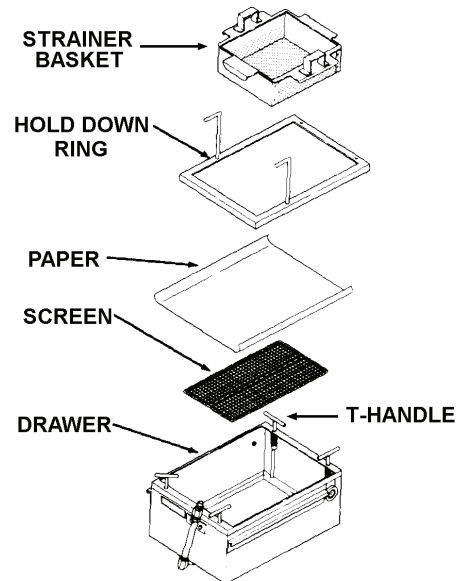

FIGURE 2. FILTER DRAWER ASSEMBLY
3. Pull filter drawer forward and remove the cover and strainer basket. Refer to Figure 2.
4. Release the spring loaded T-Arms located in the corners of the filter drawer and remove the hold down ring. Refer to Figure 2.
2. Pull filter drawer forward and remove the cover and strainer basket. Refer to Figure 2.
3. Release the spring loaded T-Arms located in the corners of the filter drawer and remove the hold down ring. Refer to Figure 2.